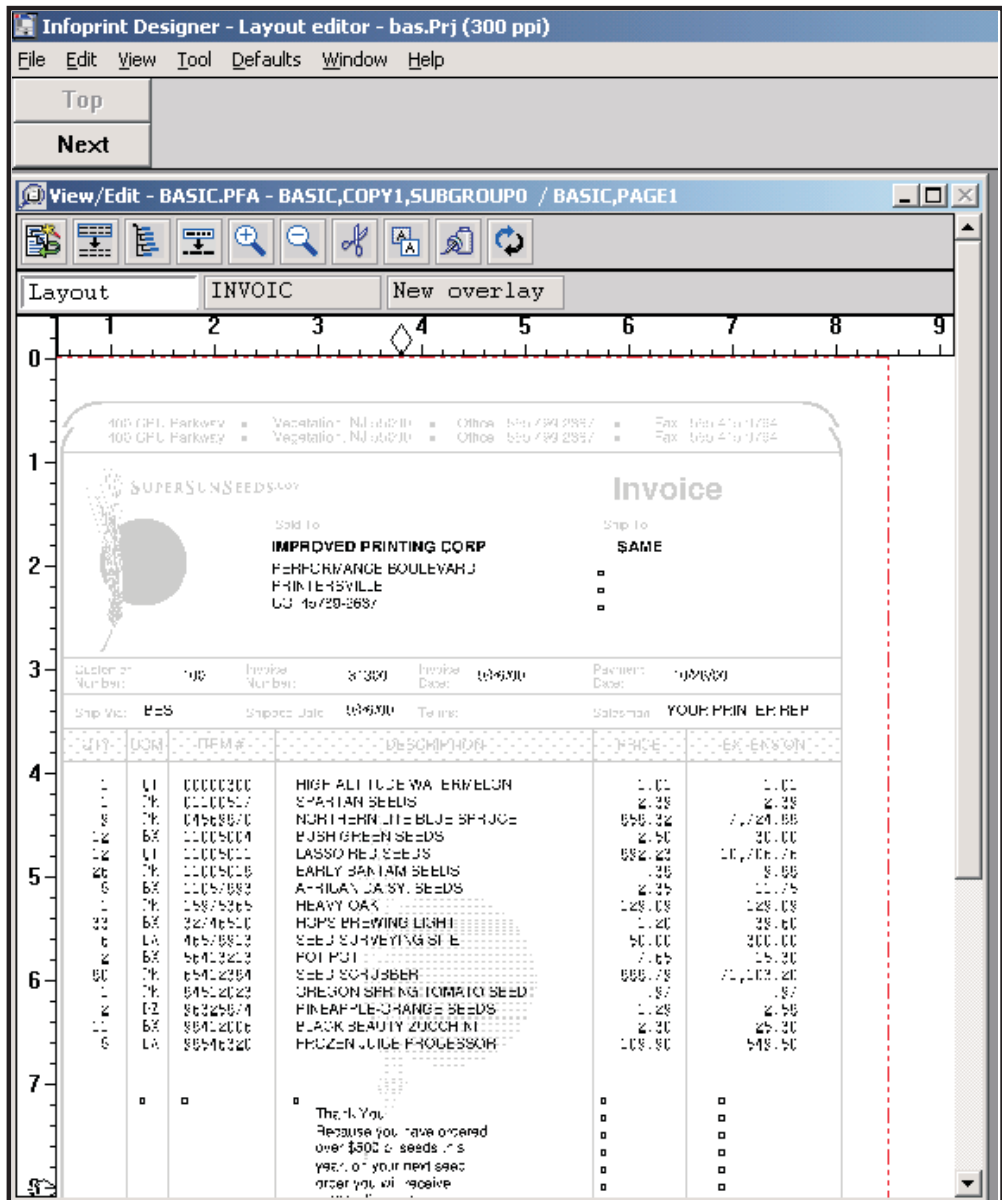

Figure 131. Finished Overlay with Data
15. After you map all of the data onto the overlay, as shown in Figure 131 on page 212, save the project and upload it to the iSeries. To save the project, click **File** and select **Save project**.